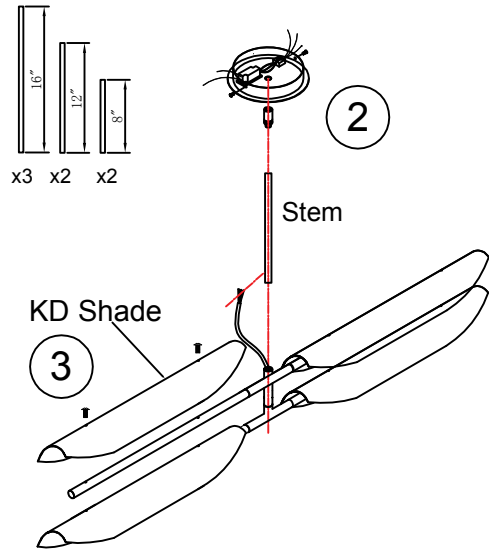

Fig.1
2. Determine the stem length required for installation, connect stems and thread wire through (Fig. 1)
3. Assemble the KD shade (Fig.1).